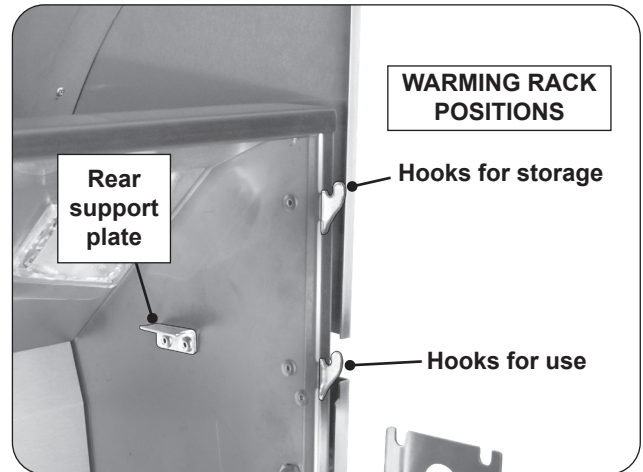
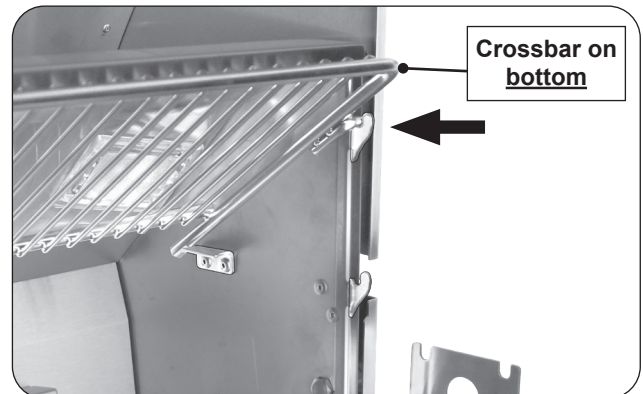

Fig. 33-1 Warming rack hooks
Fig. 33-3 Place warming rack in storage position
1. Locate the warming rack hooks and rear supports found on the upper portion of the grill oven (see Fig. 33-1).
Use the top hooks for storage (see Fig. 33-1 and Fig. 33-3).